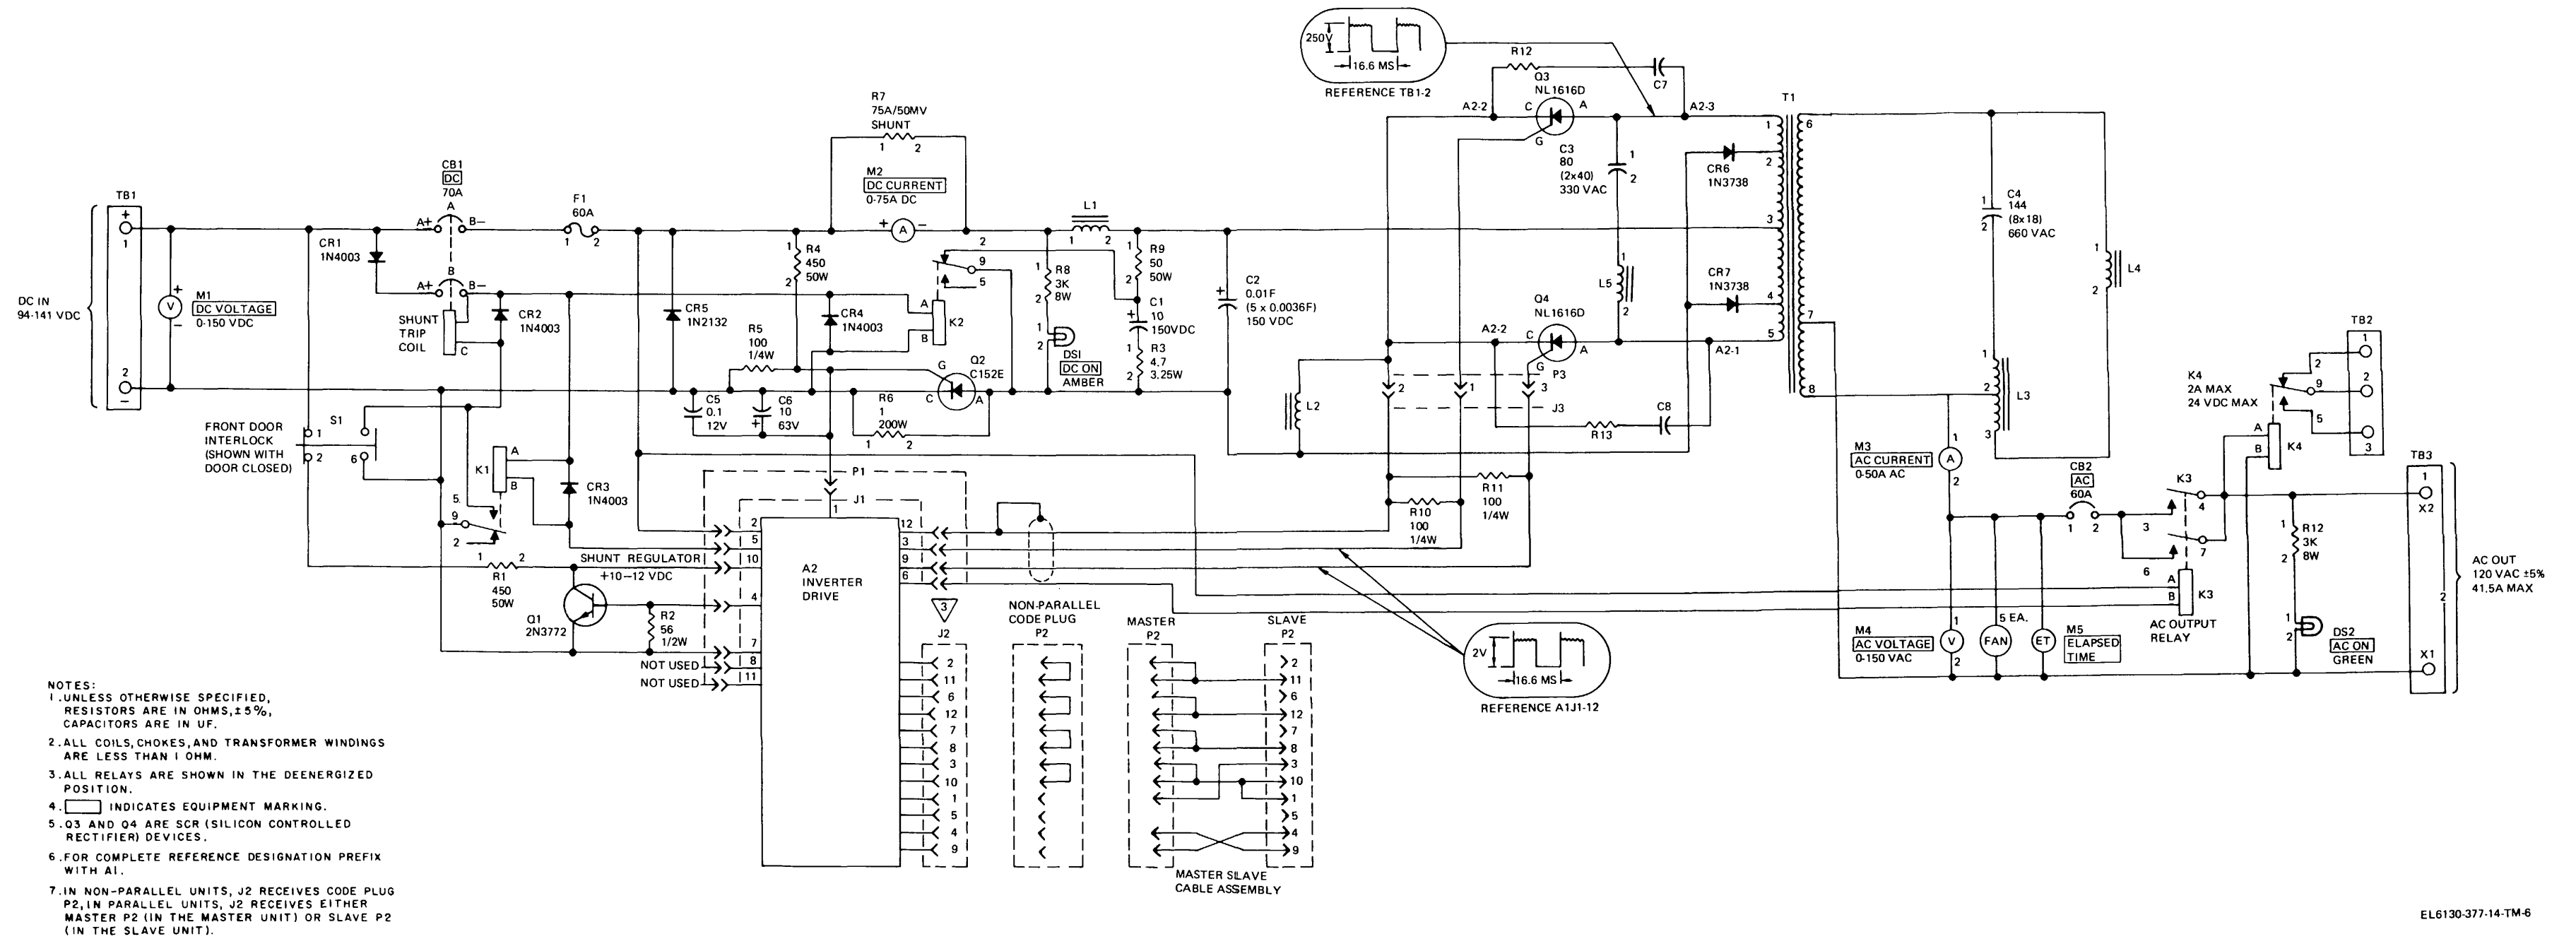

Figure FO-1. Inverter, Power, Static PP-7078/U (Deltec Model DI-5003-259), schematic diagram.
4. SEE FIGURE FO-1, INVERTER, POWER, STATIC PP-7078/U FOR SYSTEM INTERFACE.